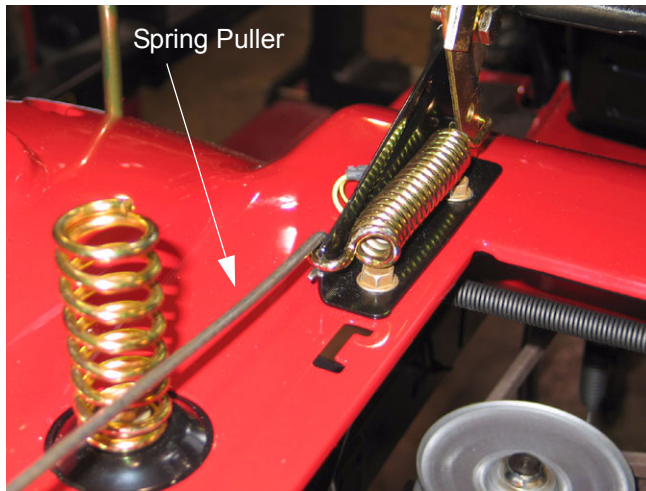

Figure 19
- 6.3. Using a spring puller, carefully remove the seat spring. See Figure 19.